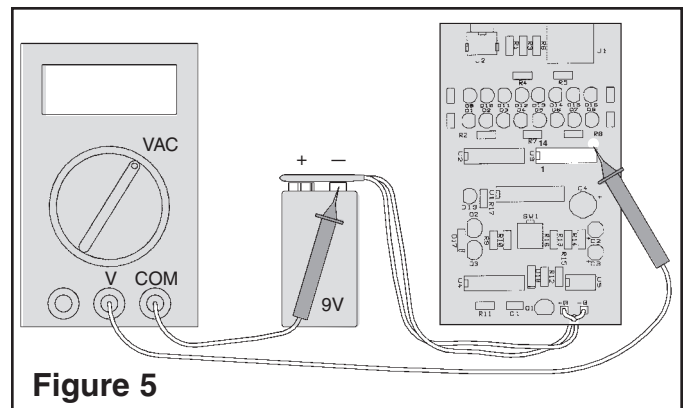

Figure 5
- 2. Set the voltmeter to read 20VAC and connect the COM lead to the negative (-) side of the battery and the V lead to pad of pin 8 of IC U3 as shown in Figure 5. The meter should indicate 0V. Push switch SW1. The meter should indicate 3-5VAC. If not: